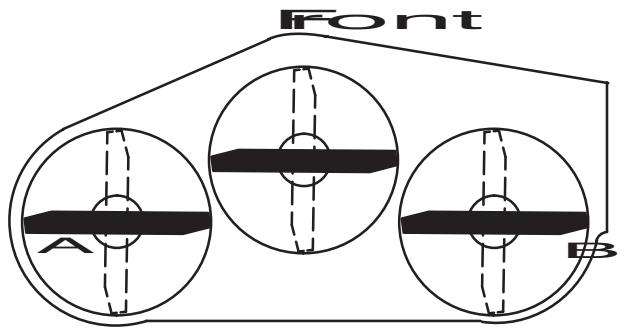

Figure 44
2. Position the blades side-to-side (Fig. 44). Measure at A and B locations (Fig. 44) from a level surface to the cutting edge of blade tips (Fig. 45).